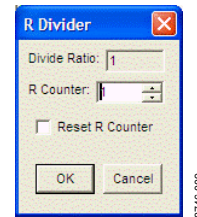

Figure 13. Reference Divider Window
7. Program the R (reference) divider by clicking the **R DIVIDER** box at the top of the main window. Set the desired value and click **OK** (see Figure 13).
The R divider window shown in Figure 13 is accessed by clicking the **R DIVIDER** box in the main window. It allows the user to set the reference divider. If this box is colored gray, the PLL is off. To turn the PLL on, click the **PLL MODE** box at the top of the main window, and select **Norm Op**.